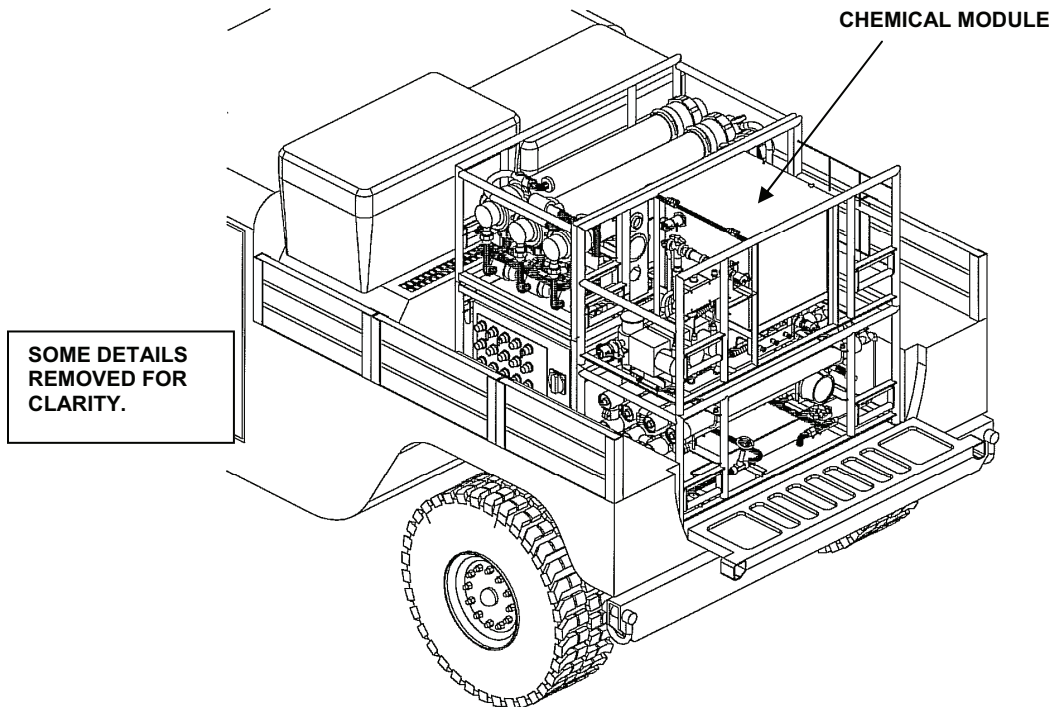

Figure 12. Loading Chemical Injection/Cleaning Module.
21. Load the chemical module in the cargo compartment. Stack on top of the RO element module. See Figure 12.